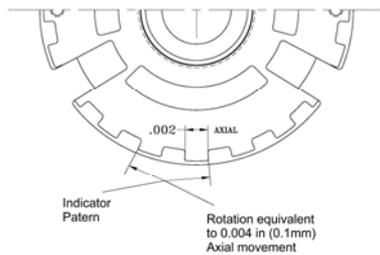

Figure 8
- 2.- Mark the position of the bearing housing with respect to the casing. Rotate the thrust bearing assembly counterclockwise to a distance in which you get 0.003" measured on outside of bearing housing. See figure 8